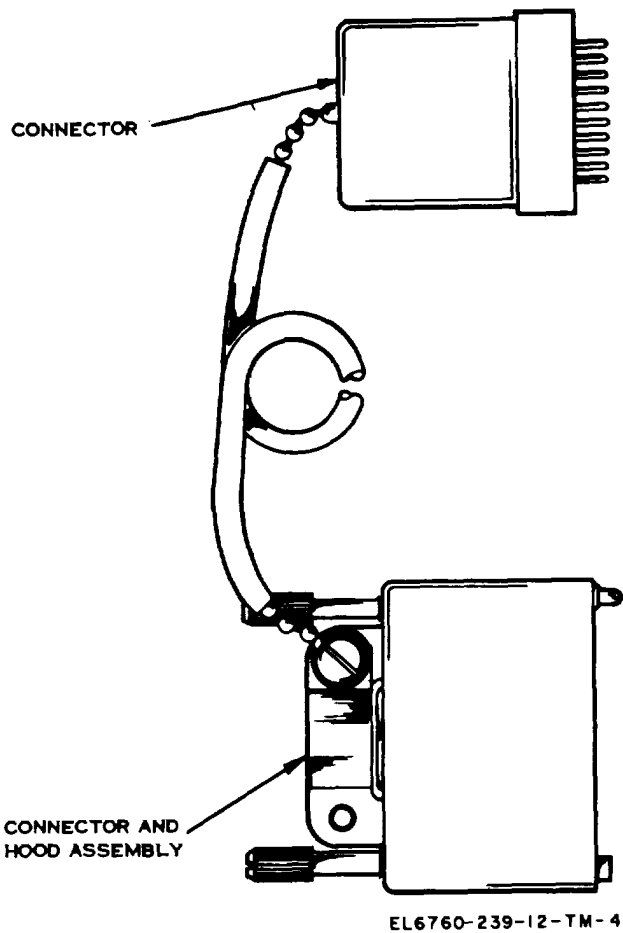

Figure 1-4. Exposure test adapter.
c. Exposure Test Adapter (fig. 1-4). The exposure test adapter consists of a connector and hood assembly and a connector, joined by an 8-inch sleeve covered chain. The connector and hood assembly has two female guide pins. The exposure test adapter connectors are plugged into the lens cone to facilitate lens cone calibration adjustments.